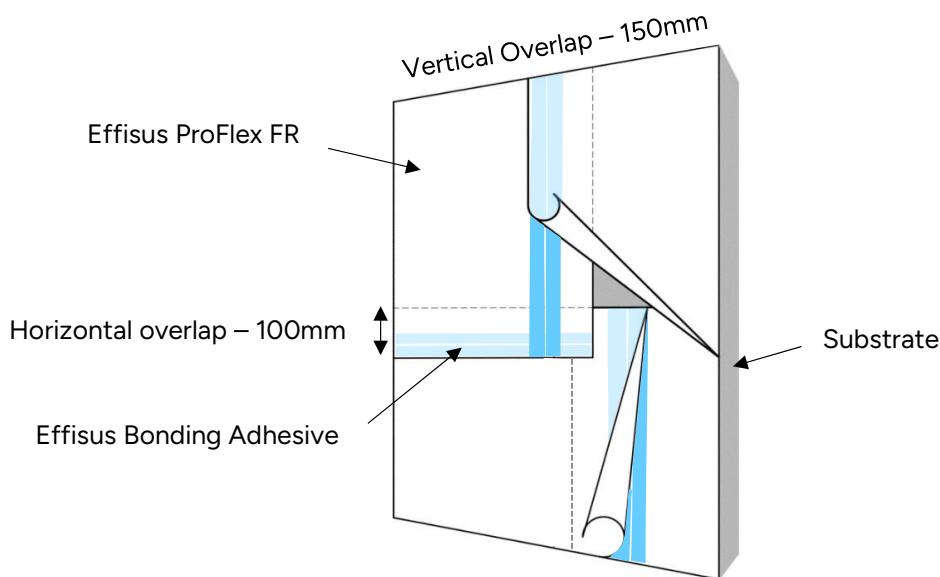

Figure 2 - Effisus ProFlex FR Membrane – Overlapping Joints.
- Vertical joints should overlap by 150mm minimum and be staggered or offset wherever possible (see Figure 2).